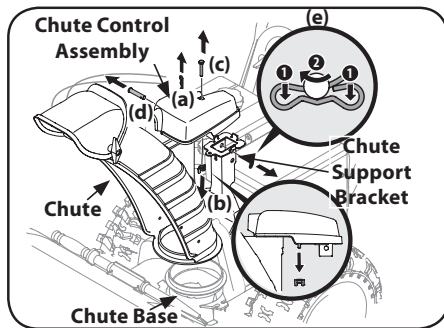

Figure 2-22
1. Remove cotter pin (a), wing nut (b) and hex screw (c) from chute control assembly. Remove clevis pin (d) and bow-tie cotter pin (e) from chute support bracket. See Figure 2-22.